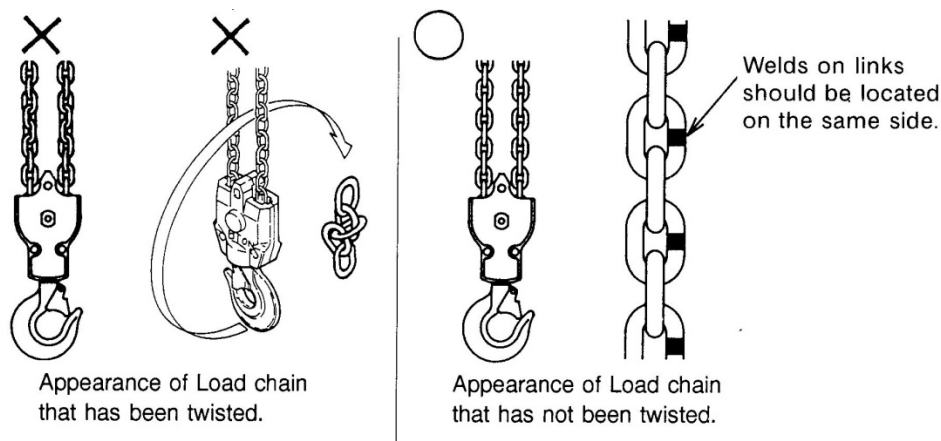

Fig.4
- In the case of multiple Load chain falls to a common bottom hook assembly, ensure that the bottom hook assembly has not capsized through the Load chain falls as this will cause the Load chain to become twisted. (Fig. 4). Before operation, check for and correct any twisting of the Load chain.